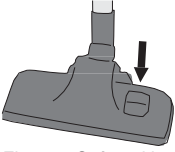

Figure 4 Soft and hard surfaces
- Press the foot button on the nozzle to set the combi nozzle for use on hard or soft surfaces, see Figure 4. For use on hard surfaces, press the foot button on the combi nozzle to extend the brushes. Lift the button for use on soft surfaces.